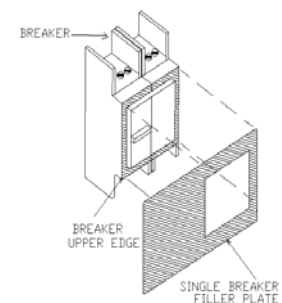

Figure 2
- c. Install filler plate provided by aligning filler plate cut-out with upper breaker(s) edge. Press filler plate firmly. Reference Figure 2.